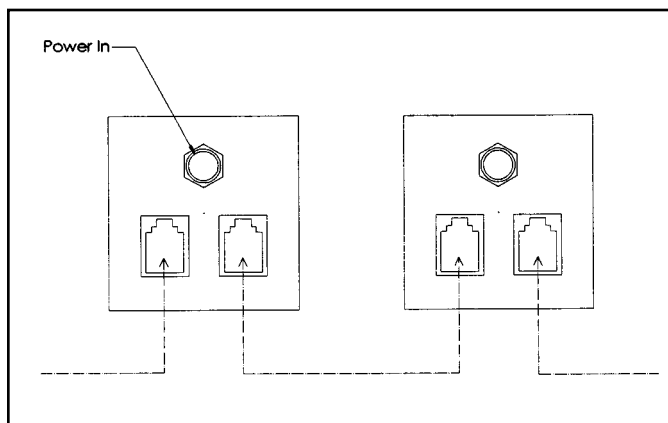

Figure 8
3. Run another cable from the right socket on the second cycle to the left socket on the third. See the dotted lines on Figure 8.